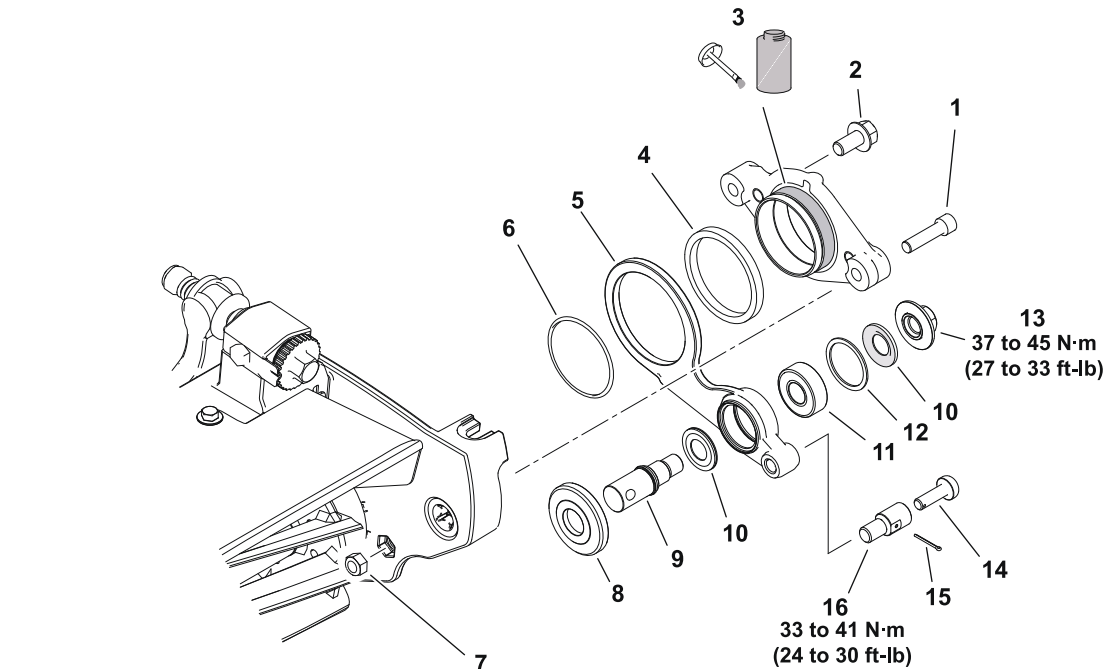

Figure 124
- D. Check the idler arm orientation (left or right cutting unit) and insert the stub shaft (item 9 in Figure 124) through shields and bearing. Use the through hole in the shaft to prevent shaft from rotating, tighten the flange nut to **37 to 45 N·m (27 to 33 ft-lb)**.